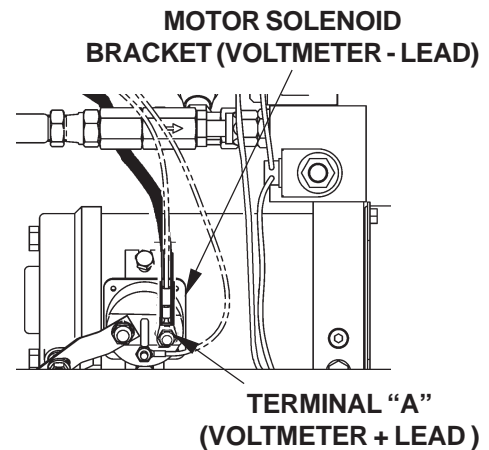

FIG. 45-1
1. Connect voltmeter between Motor Solenoid Terminal "A" and Bracket (**FIG. 45-1**) to verify that battery power is getting to "A". Recharge the battery if voltmeter indicates less than 12.6 Volts DC.